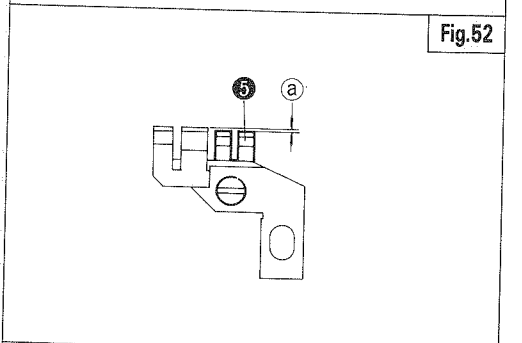

Fig.52
Set Auxiliary Feed Dog ⑤ in position as specified in Table 4. Refer to Fig. 52.